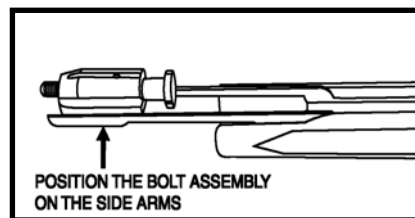

Figure 7
**Winchester:** Place the forend back on the magazine tube and replace the bolt in the action bar slots. (Fig. 7)